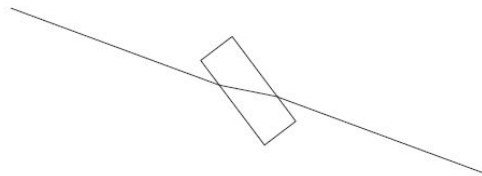

Figure 3.1: Beam path inside the crystal
- Check the beam path inside the crystal with an IR-viewer and correct the crystal position to get the beam to the centre (see Figure3.1).